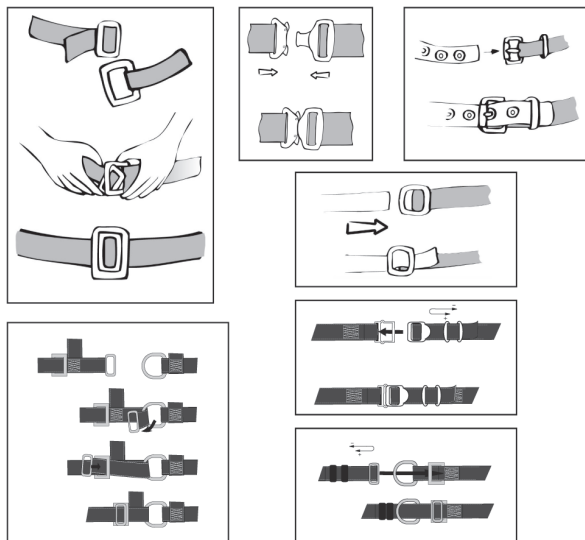

Fig.10
- Connect the length adjuster's karabiner to one of the two side D-rings on the belt. The adjuster can be connected to either the left or right side D-ring. See illustration of the D-ring connection and illustration on proper handling of the different connecting devices (figure 10).
- Pass the lanyard behind the structure (post, trunk, etc.) and connect the karabiner at the end of the rope to the other side D-ring. See illustration of the D-ring connection and illustration on proper handling of the different connecting devices (figure 10).